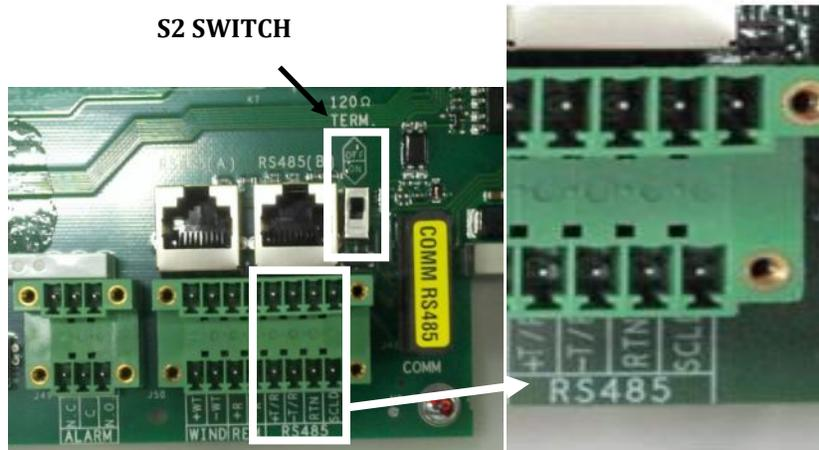

Figure 1.09 - Standard RS 485 Connection
- Connect alarm cable to the mating connector (in hardware kit) and plug connector into position shown in Figure 1.09.
- b. If running standard cable locate the mating connector (hardware bag) and connect three RS-485 leads as shown in Figure 1.09. Plug connector into position shown; second connector is to facilitate daisy chaining.